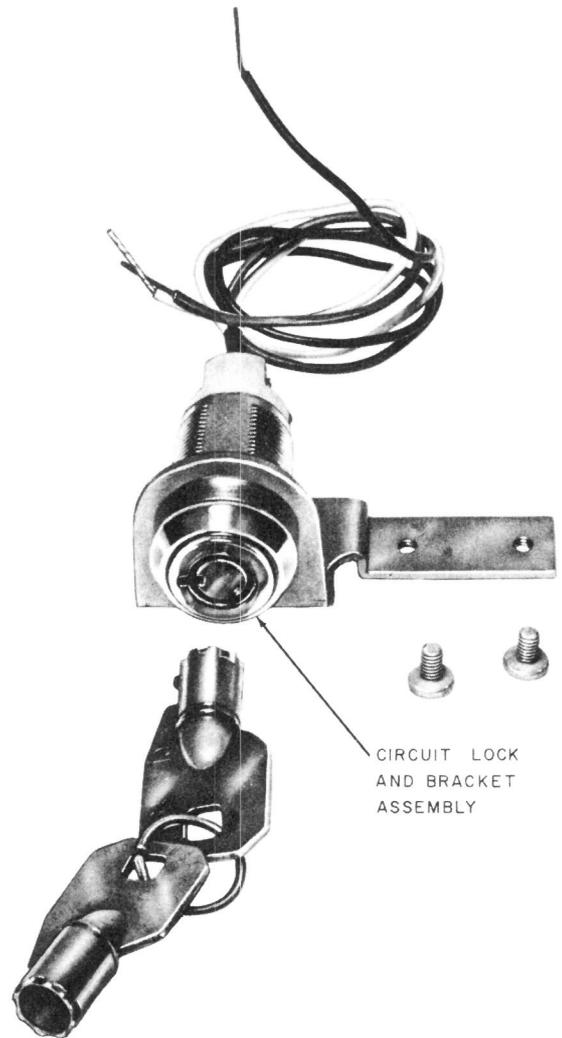

Fig. 13—D-180385 Kit of Parts
3.14 Install the circuit lock (D-180385 Kit of Parts, Fig. 13) in the 526B telephone set as follows: